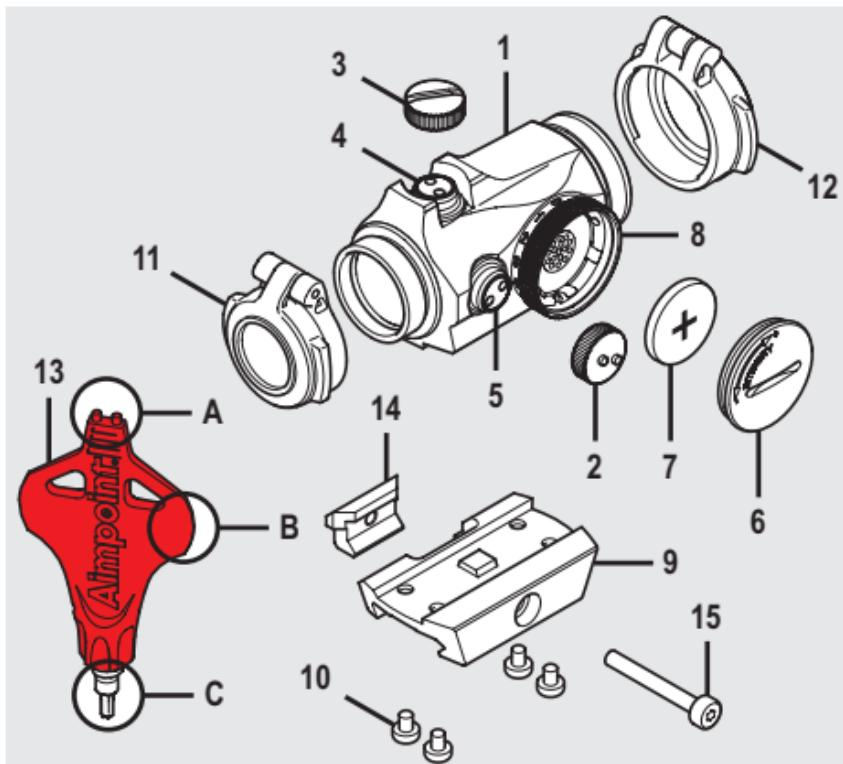

Fig. 1
- a. Remove Battery cap (6) using the Tool (13B).
- b. Insert Battery (7) with the positive end (+) toward Battery cap (6) as can be seen in Fig 1.
- c. Turn to the Rotary switch (8) to intensity setting 12 (max.) and tighten the Battery cap (6) with the Tool (13B). When resistance is encountered, proceed to tighten until the Battery cap (6) comes to a stop.
- d. Verify that the red dot is present and that there is zero gap between the Battery cap (6) and the battery compartment.